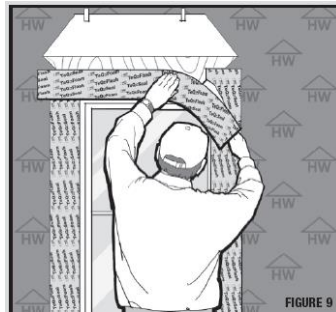

Figure 9
- 5.1.1 Head flashing should extend beyond jamb flashing by 1" on both sides (Figure 9). Apply head flashing under WRB flap created in Step 1.